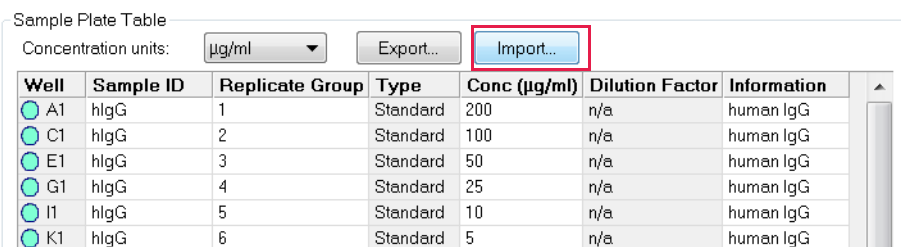

Figure 7-33: Import Button in Sample Plate Table
1. In the **Sample Plate Table** (see Figure 7-33), click **Import**.